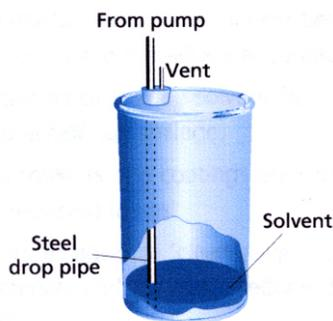

Figure 2. Pumping using steel drop pipe
- Do not decant full drums by tipping them as this can cause accidents and large spills. Instead, pump from the drum, using a hose and a steel drop pipe passed through a bung to the bottom of the container (Fig 2). Be careful to withdraw the pipe slowly, continuing to pump and tilting it backwards to avoid spillage from the pipe. Finally tip the drum manually to empty the remnants into the receiving container.